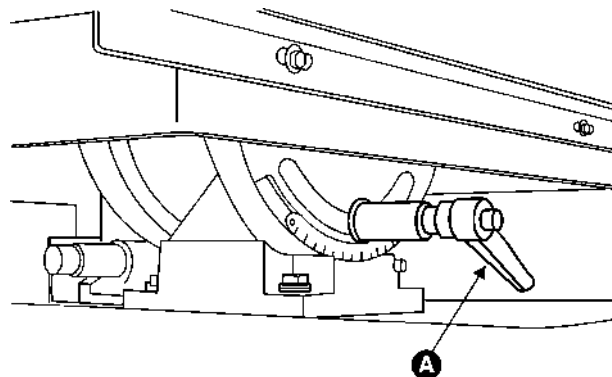
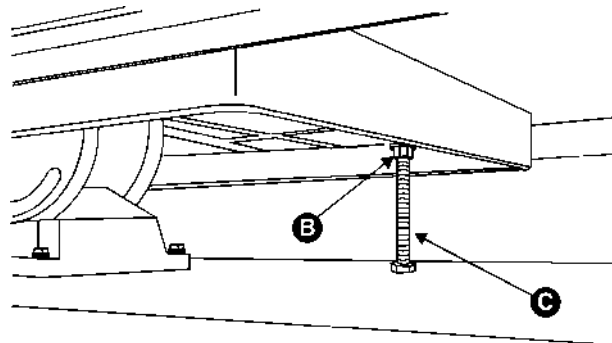

FIGURE 5
FIGURE 6
1. Loosen the lock lever (A), Figure 5.
3. Tighten the lock lever (A).
2. Loosen lock lever (A), Figure 5, and tilt table left until it rests against table stop bolt.
4. If adjustment is necessary, loosen the lock lever (A).
5. Loosen lock nut (B), Figure 6, and turn table stop bolt (C) to raise or lower. Tighten the nut to hold table stop in place.